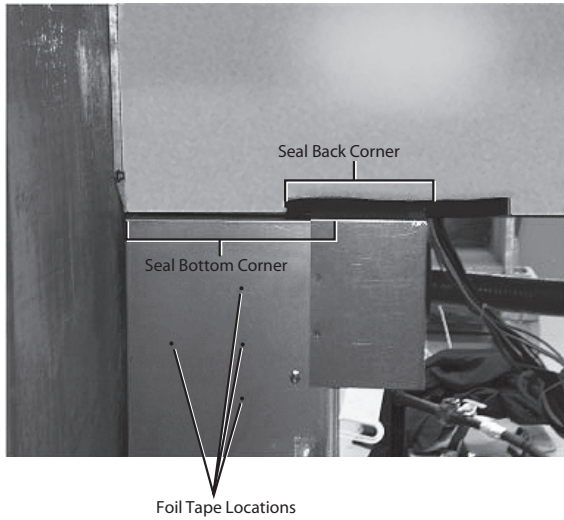

Fig. 26 - Seal Strip and Foil Tape Locations
6. Add seal strip to the rear bottom corner of the control panel as shown in Fig. 26.
7. Foil tape open screw holes on the back of the single point box as shown in Fig. 26. Different single point boxes will have different screw holes open.